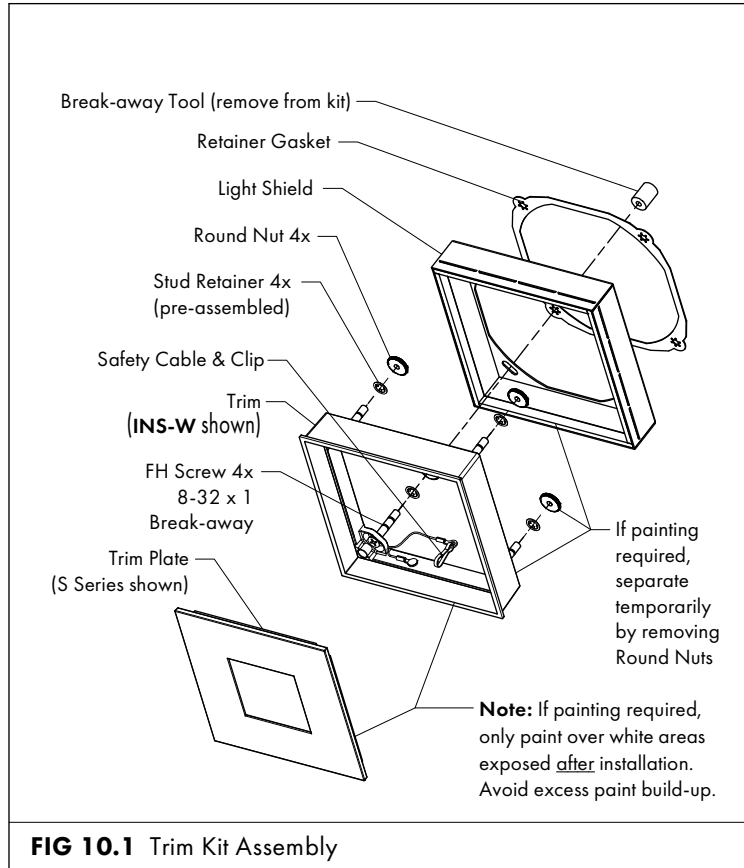

FIG 10.1 Trim Kit Assembly
- STEP 5** If painting is required, temporarily separate Light Shield & Retainer Gasket from Trim Kit & paint Trim & Trim Plate (see note in **FIG 10.1**).
- STEP 6** Before installing, rough adjust Trim Kit height to approximate ceiling-to-Housing depth. Use Screws & Round Nuts to set rough height of Trim - **FIG 10.1 & 10.2**.